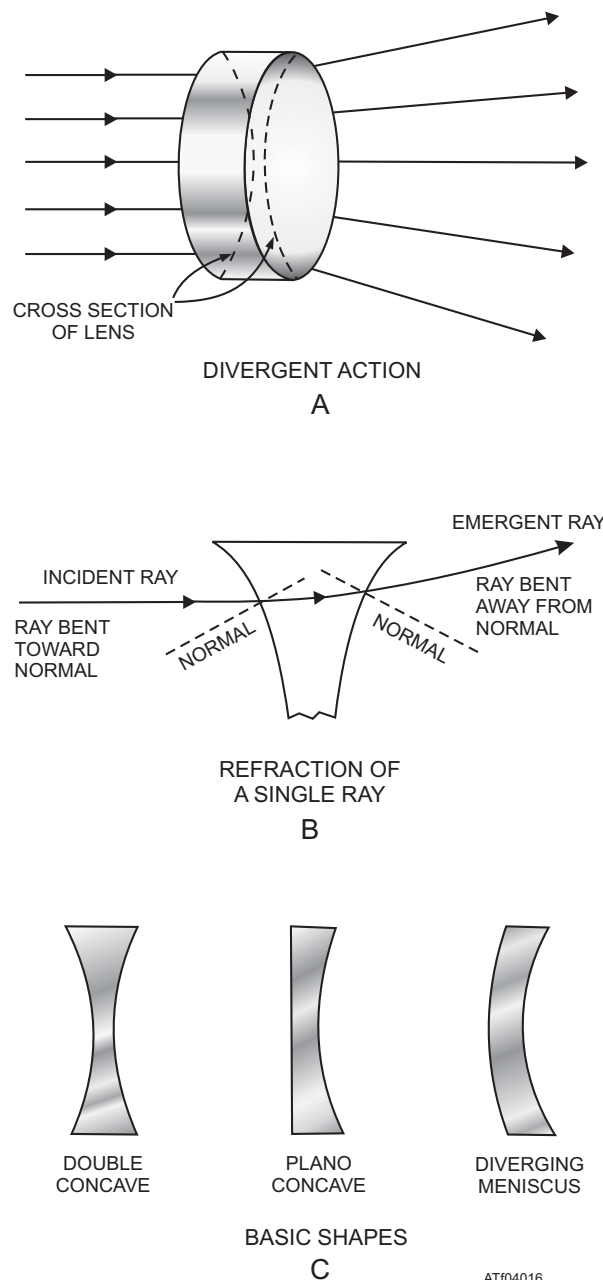

Figure 4-16.—Negative lenses.
**NEGATIVE LENSES.**—The refraction of negative lens is like the refraction of light rays by two prisms apex to apex. If the prism surfaces were rounded, the result would be a negative (divergent) lens, as seen in figure 4-16. A negative lens is called a *divergent lens*, since it does not focus the rays of light passing through it. Light rays passing through a negative lens diverge or spread apart (fig. 4-16, view (A)).
Look at view (B) of figure 4-16. Here, the law of refraction to a single ray of light passing through a negative lens is shown. However, just as in a positive lens, a ray of light passing through the center of a negative lens is not affected by refraction and passes through without bending.
Three simple negative lenses are shown in figure 4-16, view (C). These lenses often are referred to as concave lenses and are identified by their concave